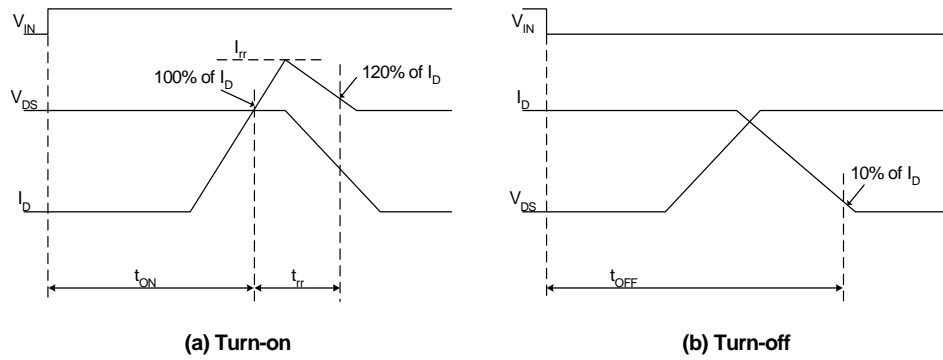
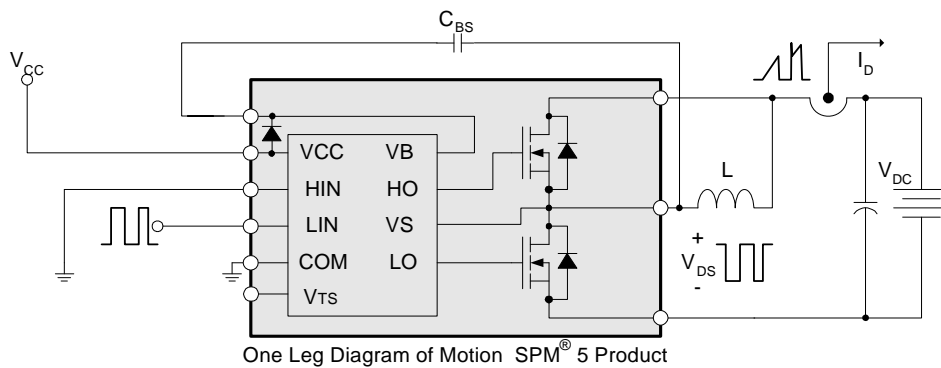

Figure 6. Switching Time Definitions
Figure 7. Switching and RBSOA (Single-Pulse) Test Circuit (Low-side)
- $t_{ON}$  and  $t_{OFF}$  include the propagation delay of the internal drive IC. Listed values are measured at the laboratory test condition, and they can be different according to the field applications due to the effect of different printed circuit boards and wirings. Please see Figure 6 for the switching time definition with the switching test circuit of Figure 7.
- The peak current and voltage of each MOSFET during the switching operation should be included in the Safe Operating Area (SOA). Please see Figure 7 for the RBSOA test circuit that is same as the switching test circuit.